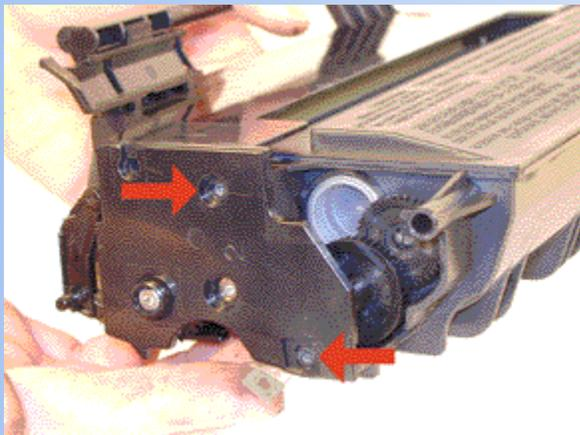

FIGURE 44
36. Place the two halves together. Install the metal plates, and screws. See Figure 44